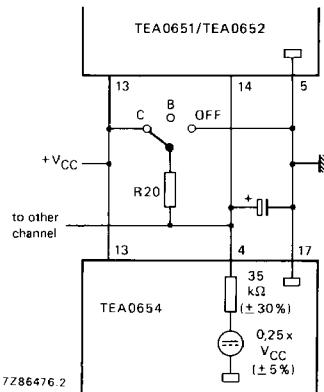

Fig. 10 Optional external time constant for mode switch.
$V_{CC} = 14$ V; $f = 20$ Hz to 20 kHz; $T_{amb} = 25$ °C; all levels with reference to 387,5 mV = 0 dB = -6 dBm at test point 1 in Fig. 2; record mode; unless otherwise specified; for graphs see Figs 10 to 16.
4. For a typical application see Fig. 10. Worst case considerations for the V_{CC} range from 8 V to 20 V limit the optional external resistor to maximum $6.8 \text{ k}\Omega$, divided by number of switched channels.
5. In the open position (B) of the mode switch pin 14 of TEA0651/TEA0652 is pulled to typical $0.25 \times V_{CC}$ by pin 4 of TEA0654.